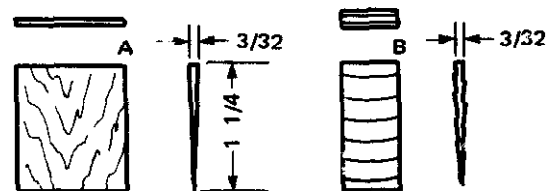

Fig. 11-19 Sizes of wood and metal wedges.
7. See figure 11-19. Prepare a thin wedge equal in width to the eye and about $1 \frac{1}{4}$ inches long. Drive it into the kerf to its maximum tightness.